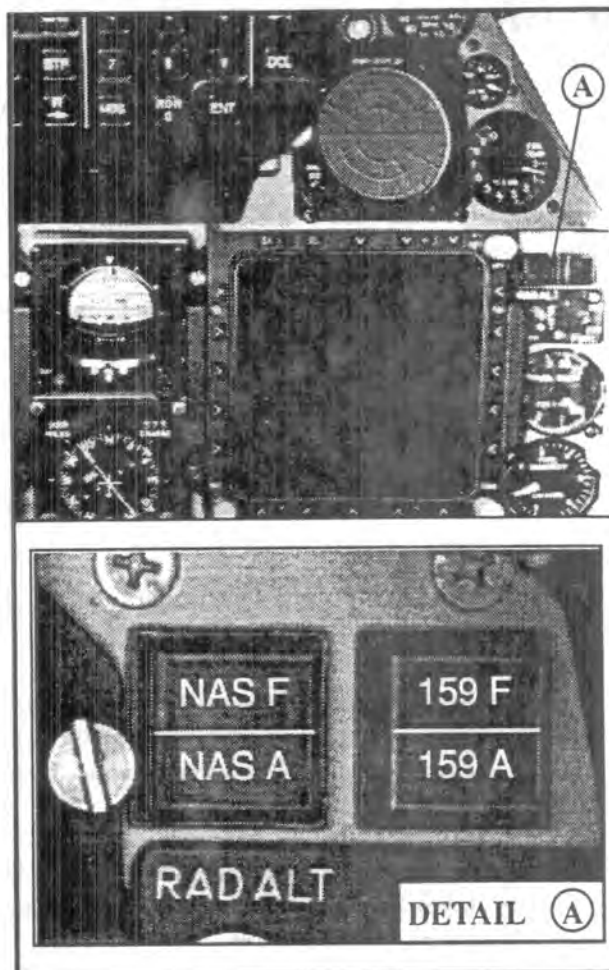

Figure 7-3 NAS Control Transfer Switch
7.7 The NAS control transfer switches (Figure 7-3), located on the main instrument panel of each cockpit above the fuel flow indicator, are used to transfer NAS control functions from the front seat to the rear seat and vice versa. The transfer function is accomplished by the control transfer relay box. The functions that are transferred are described in paragraph 7.8.